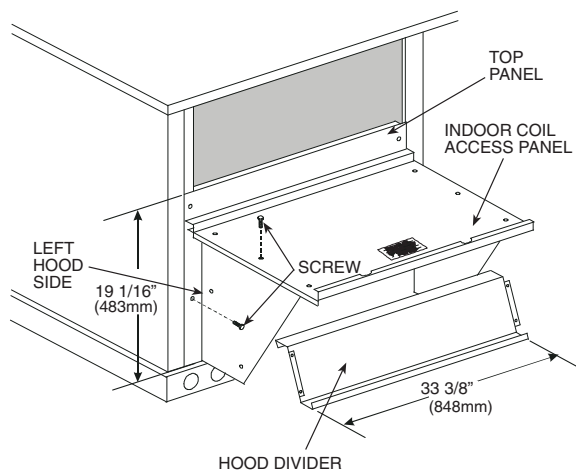

Fig. 18 — Economizer Hood Construction
2. Swing out indoor coil access panel and insert the hood sides under the panel (hood top). Use the screws provided to attach the hood sides to the hood top. Use screws provided to attach the hood sides to the unit. See Fig. 18.
4. Insert the hood divider between the hood sides. See Fig. 18 and 19. Secure hood divider with 2 screws on each hood side. The hood divider is also used as the bottom filter rack for the aluminum filter.